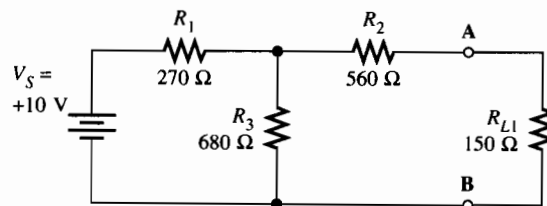

Figure 12–3
2. Construct the circuit shown in Figure 12–3. Points A and B represent the output terminals. Calculate an equivalent circuit seen by the voltage source. Figure 12–4 illustrates the procedure. Use the equivalent circuit to compute the expected voltage across the load resistor, V_{L1} . Do not use Thevenin’s theorem at this time. Show your computation of the load voltage in the space provided. For the first load resistor, your computed result should be approximately 1.19 V.